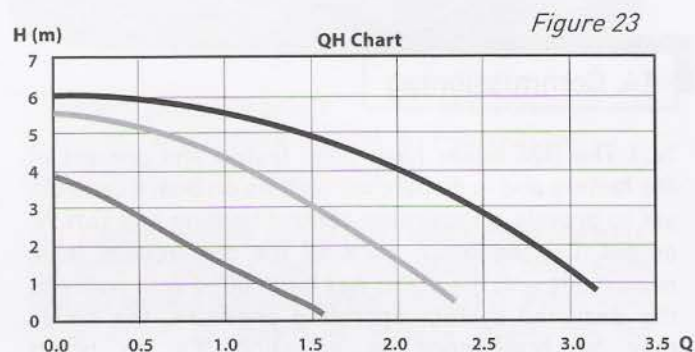

Figure 23
**15.9 The boiler's integral pump** is factory set to its maximum speed setting to give a 1000 l/hr flow on a nominal over 5 m head. The pump may be adjusted to a lower speed to match the designed central heating system requirements. (Figure 23)